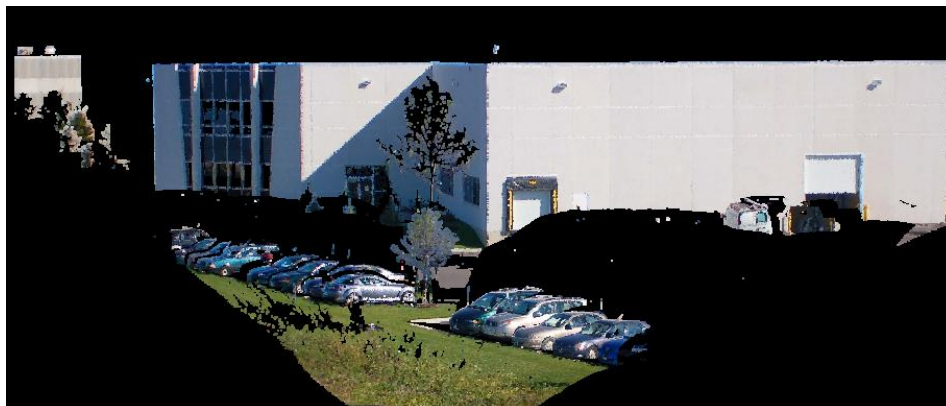

Figure 21: Successful drape
12. In the main parser window, click **Parse**. The IXF file now displays the picture draped over the scan (Figure 21).